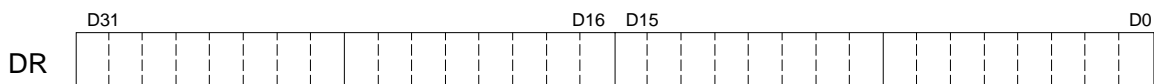

Figure 4.1.1. Data register.
Figure 4.1.1 shows the format of the data register (DR).